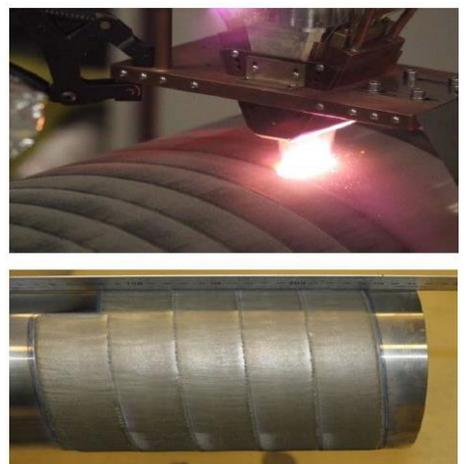

Figure 6: 45 mm spot with 20 kW laser power (image courtesy Fraunhofer IWS)
- Working with rectangular spot geometry.** Nowadays there are flat-jet powder nozzles available with rectangular geometries up to 45 mm (1.77 in) in width (Figure 6). The powder consumption, however, also increases accordingly and can go upwards of over 300 g/min (40 lb/h). Also due to the large area of interaction between the laser spot and the substrate surface, high power laser is required.